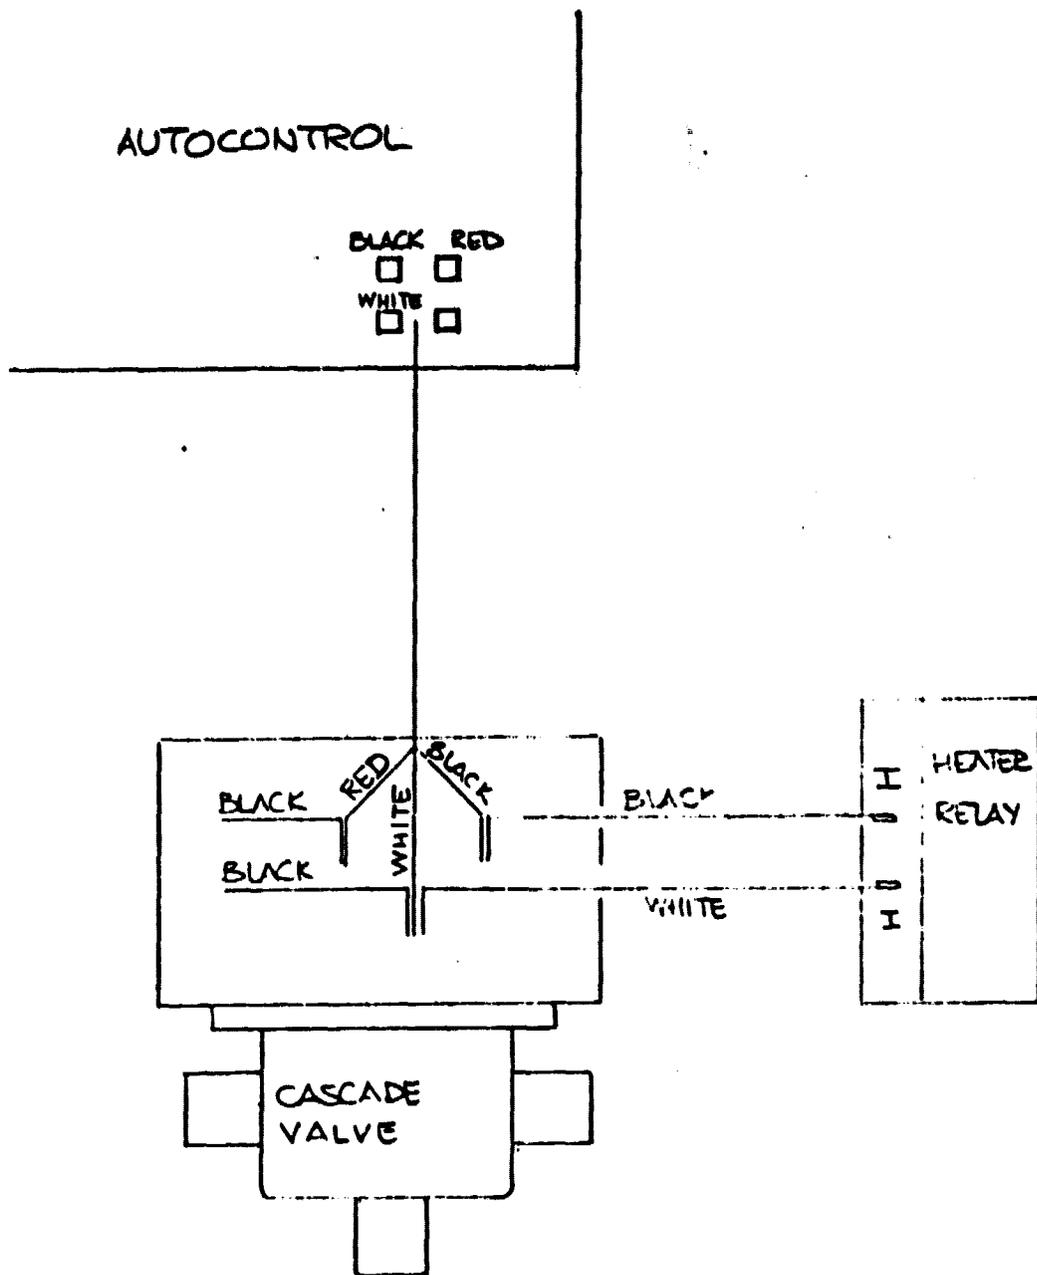

FIGURE 3.6.5.1
3.6.5 The Actuator Leads: Run the three wire actuator lead from the autocontrol unit to the CASCADE VALVE. Connect the wires as shown in Figure 3.6.5.1. The remaining two wire lead is then routed to the ELEMENT OVERRIDE relay and connected as shown in Figure 3.5.32. Neaten all low voltage leads by securing them to plumbing runs or the structure, as appropriate.